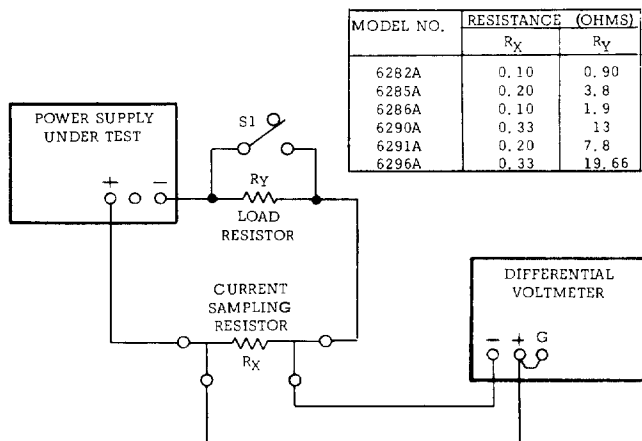

Figure 5-4. Output Current Test Setup
| Resistive Loads              | Value: See Paragraph 5-14. and Figure 5-4. $\pm$ 5% 250 watts.           | Power supply load resistors                 | -----                       |
| Current Sampling Resistor    | Value: See Figure 5-4. 1%, 200 watts, 20ppm, 4-Terminal.                 | Measure current; calibrate meter            | -----                       |
- Connect test setup shown in Figure 5-4, leaving switch S1 open.
a. Connect test setup shown in Figure 5-4.
a. Utilize test setup shown in Figure 5-4 leaving switch S1 open throughout test.
a. Use test setup shown in Figure 5-4, except connect AC voltmeter across sampling resistor instead of differential voltmeter.